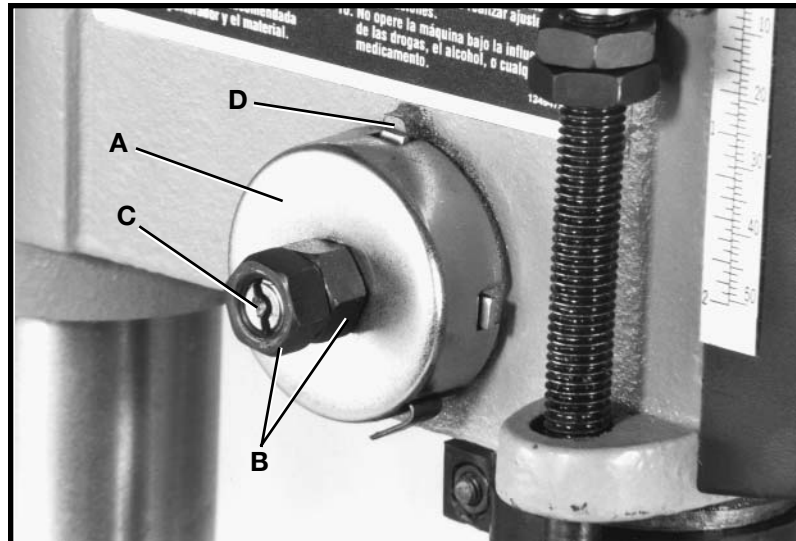

Fig. 29
1. Loosen the two nuts (B) Fig. 29, approximately 1/4". Do not remove nuts (B) from shaft (C).
2. While firmly holding spring housing (A) Fig. 29, pull out housing and rotate it until the boss (D) is engaged with the next notch on the housing. Turn the housing counter-clockwise to increase and clockwise to decrease spring tension. Then tighten the two nuts (B) to hold the housing in place. **IMPORTANT:** Inside nut (B) should not contact spring housing (A) when tight.